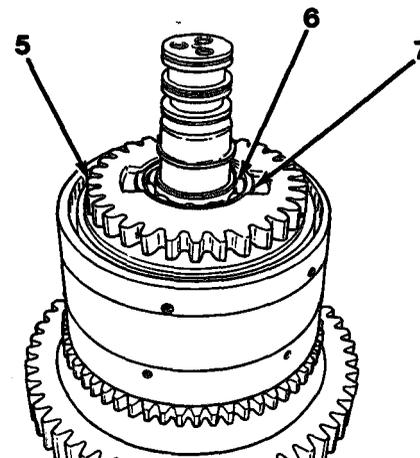

Figure 11-17
27. Open snap ring (7) to install bearing (6) into high gear welded assembly (5, Figure 11-17).